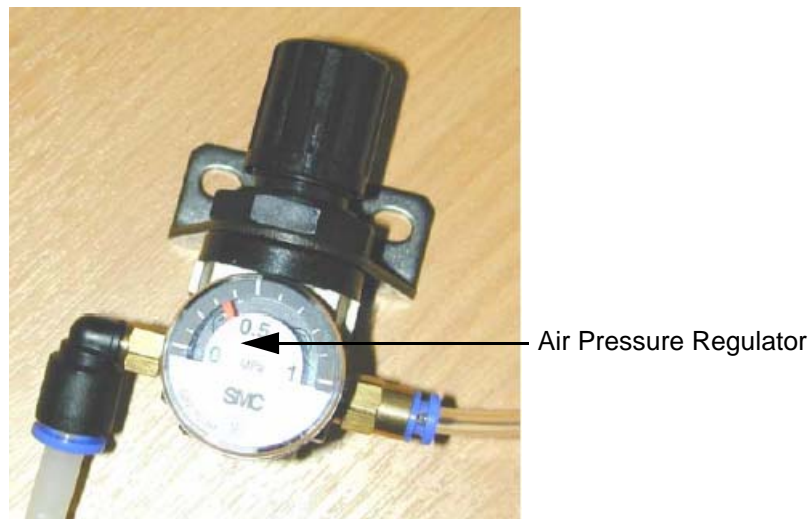

Figure 3-1: Air Pressure Regulator
- 1 Locate the air pressure regulator (Figure 3-1 on page 3-2). It is close to the printhead and connected to the printhead by a 4 mm air line.